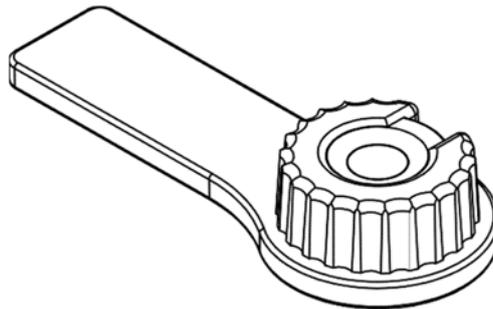

Figure 3: CyPass® Micro-Stent is packaged in the loader
6. Remove the loader containing the CyPass® Micro-Stent (Figure 3) from the sterile tray.